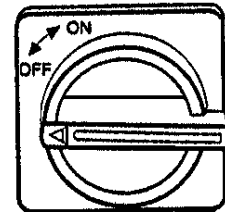

FIGURE 2
1. Ensure On/Off switch (Disconnect) is turned to "Off" position. The On/Off (Disconnect) switch is "Off" when turned counter-clockwise. **Reference Figure 2.**